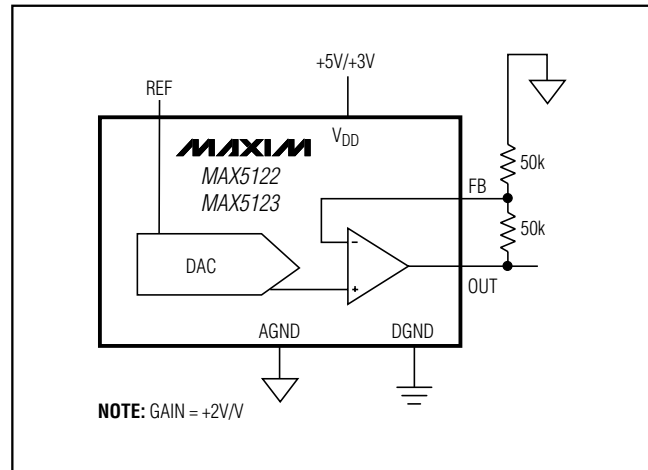

Figure 9. Unipolar Output Circuit Using Internal (+1.25V/+2.5V) or External Reference. With external reference, pull REFADJ to  $V_{DD}$ .
Figure 9 shows the MAX5122/MAX5123 setup for unipolar, rail-to-rail operation with a closed-loop gain of 2V/V. With its internal reference of +2.5V, the MAX5122 provides a convenient unipolar output range of 0 to +4.99878V, while the MAX5123 offers an output range of 0 to +2.49939V with its on-board +1.25V reference. Table 5 lists example codes for unipolar output voltages.
**Table 5. Unipolar Code Table (Figure 9)**